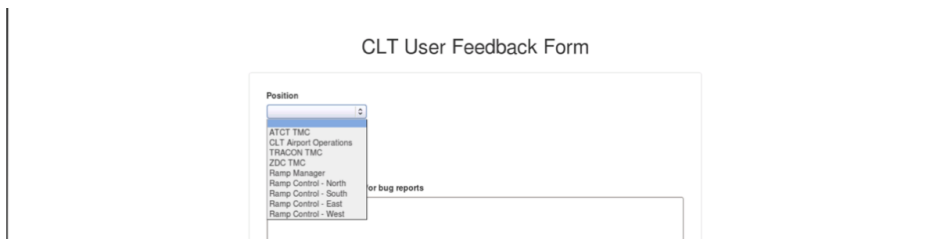

Figure 23. Position drop-down list.
Step 4: Select the appropriate position in the drop-down list (see Figure 23).